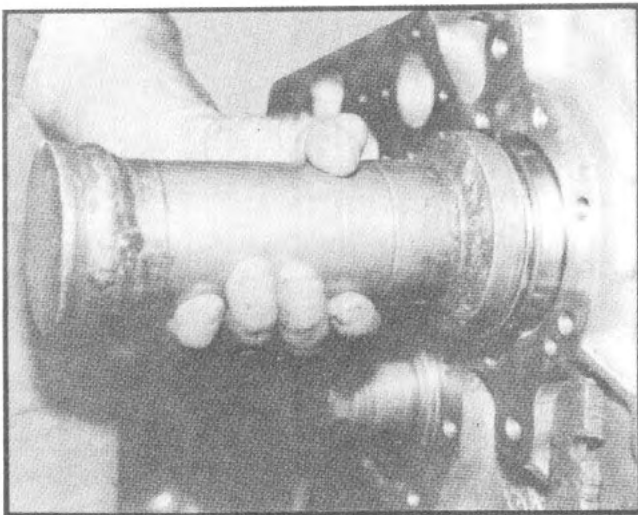

Fig. 19
4. Tap output shaft bearing over end of shaft and into the housing with a suitable bearing driver (See fig. 19).